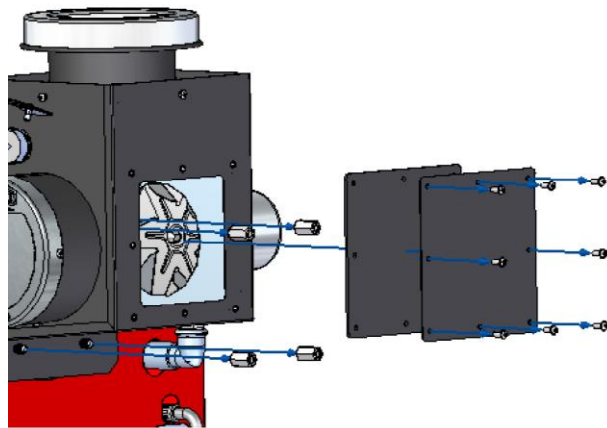

Figure 3-7. Fan box access panel.
- Remove the access panel from the rear face of the fan box. Refer to Figure 3-7.